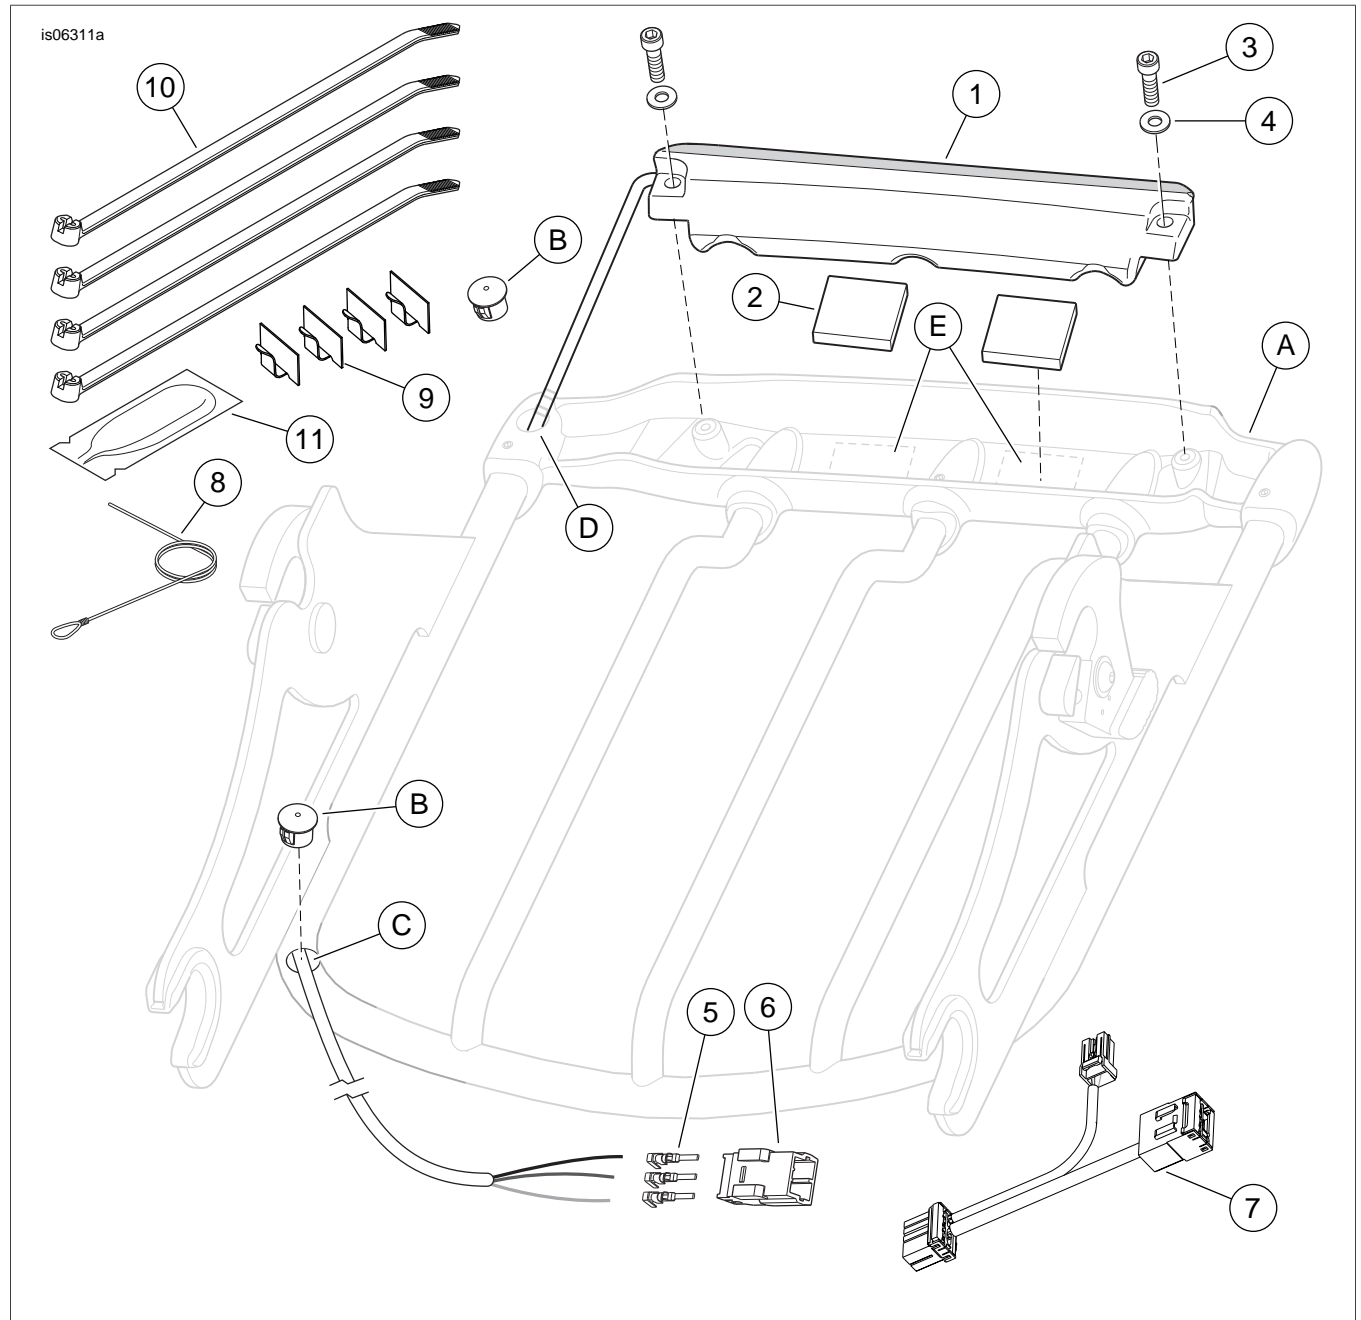

Figure 3. Service Parts: Air Wing Detachable Luggage Rack Light Kits
See Figure 3 and Table 1.
2. See Figure 3. Remove the Air Wing Detachable Luggage Rack (A) from the vehicle and place it upside-down on the work surface.
3. Remove the black plastic plugs (B) from the holes at the front and back of the left side rail.
4. Insert the loop end of the nylon monofilament guide wire (8) through the forward hole (C) in the rail, and out through the rear hole (D). Allow the straight end to remain outside the forward hole.
2. See Figure 3. Locate the tail light connector [7] between the main wiring harness and the rear fender harness under the seat.